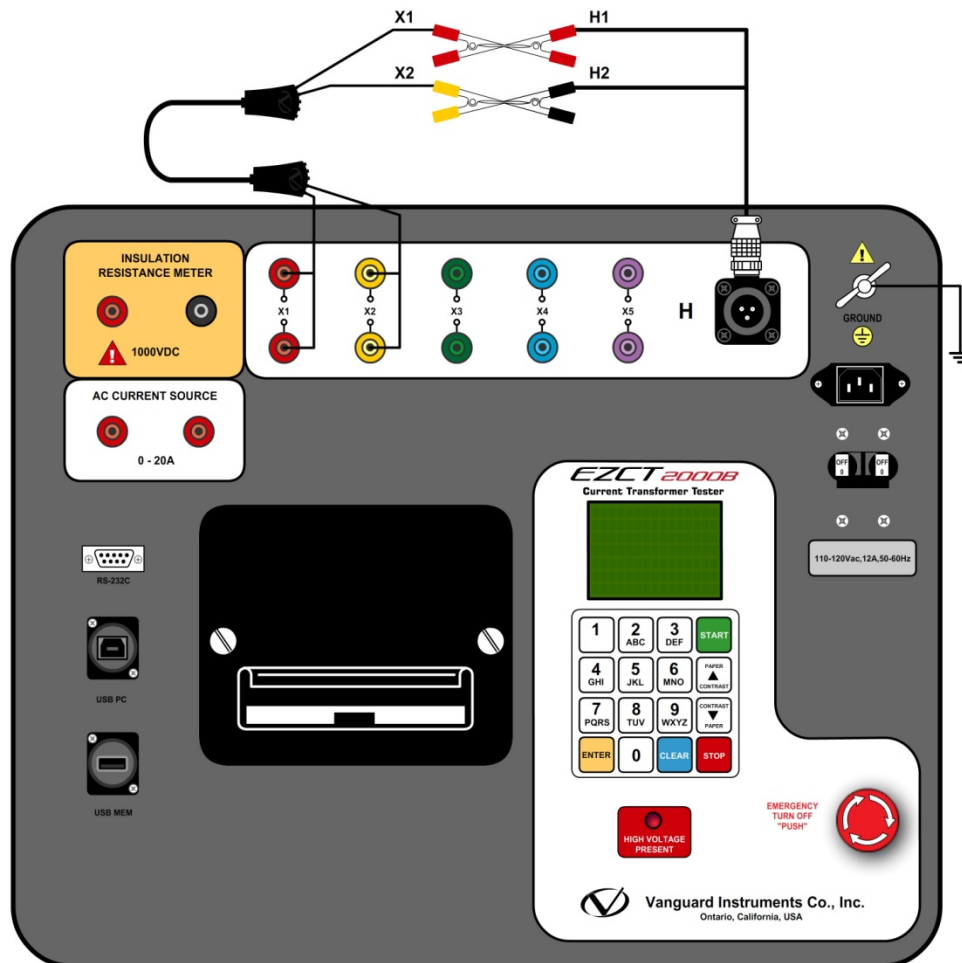

Figure 23. EZCT-2000B Turns Ratio Verification Test Connections
- Connect the X1 test lead to the H1 test lead as shown in Figure 23.
- Connect the X2 test lead to the H2 test lead as shown in Figure 23.